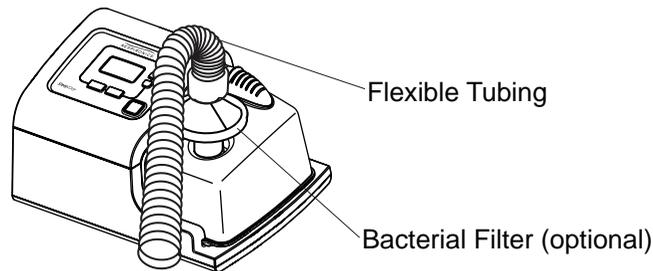

FIGURE 3–2 CONNECTING THE FLEXIBLE TUBING
1. Connect the flexible tubing to the air outlet on the top of the device, as shown in Figure 3–2.